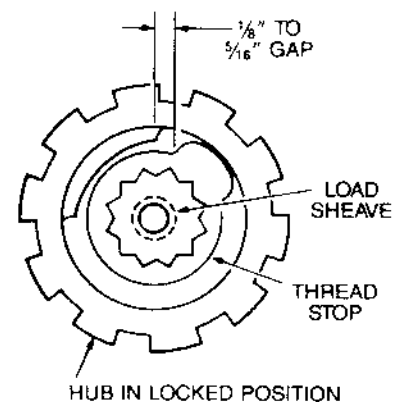
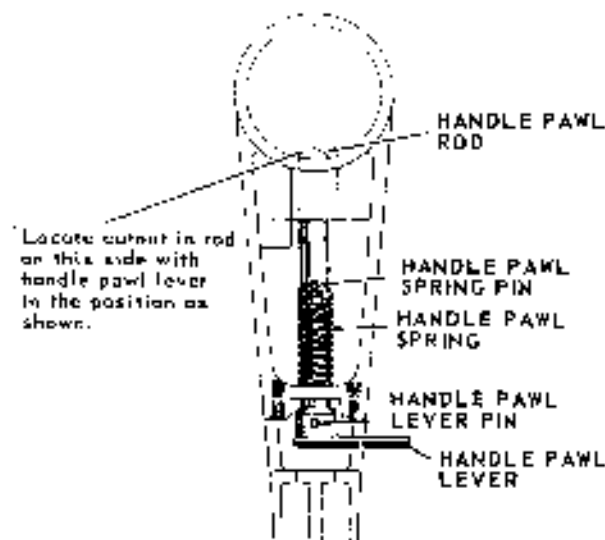

FIGURE 4-6. POSITIONING OF THREAD STOP
FIGURE 4-7. LEVER AND ROD ASSEMBLY
f. Manually screw hub (18) counter-clockwise onto load sheave (32) until the hub face has locked against the brake disc (19). Continue turning hub counter-clockwise until the cast stop within the hub is at the top as shown in figure 4-6. Place thread stop (11) over the square end of the load sheave and to the right of the cast hub stop, allowing a minimum 1/8 inch movement to a maximum 5/16 inch movement between the hub stop and the protrusion on the thread stop.
g. Place gasket (14) on housing (43). If oil seal (15) was removed, press seal in cover (16). Place cover on housing while taking care not to damage oil
h. Insert handle pawl rod (9) into handle (10). Place spring (8) on rod and press pin (5) in rod. Attach lever (7) to rod with pin (6). See figure 4-7 for correct orientation of rod and lever. Replace plug (4) in handle.
i. Install ring (3) on retainer cap (2) and secure handle (10) to hub (18) with retainer cap and screw (1).
j. Assemble top hook (51), hook washer (53) and nut (52) in housing (43). Screw nut on hook until approximately 1/64 inch vertical play (to allow hook to swivel freely) remains. Align pin hole in hook and slot in nut and insert pin (37). If latch (50) was removed, attach latch to top hook.
k. Position swivel frames (48) over bottom hook (49). If latch (50) was removed, attach latch to bottom hook.
1. See figure 4-6 for diagram of chain reeving. Turn handle pawl lever to "DN" position. Insert the hoist on a work table and move handle until a flat chain pocket in the load sheave (32) can be seen. Drop loose end of the load chain into the side of load on same side as load pawl lever (34). The first link of the chain shall be upstanding in the load sheave groove, with the weld on the link facing away from the load sheave. The second link of chain should slide in one of the load sheave pockets. Use handle to turn sheave in the lowering direction. As the end of the chain moves around load sheave, turn hoist upright so load chain will move around load sheave correctly and out of housing.
m. Attach the first link of chain (46) to swivel frames (48) with swivel screw (45) and nut (44). If end ring (47) was removed, attach ring to opposite end of chain.
g. Manually screw hub (18) counter-clockwise onto pinion shaft (36) until the hub face has locked against the brake disc (19). Continue turning hub counter-clockwise until the cast stop within the hub is at the top as shown in figure 4-6. Place thread stop (11) over the square end of the pinion shaft and to the right of the cast hub stop, allowing a minimum of 1/8 inch movement to a maximum 5/16 inch movement between the hub stop and the protrusion on the thread stop.
h. Place gasket (14) on housing (50). If oil seal (15) was removed, press seal in cover (16). Place cover on housing while taking care not to damage oil seal. Attach cover with four screws (12) and lockwashers (13).
i. Insert handle pawl rod (9) into handle (10). Place spring (8) on rod and press pin (5) in rod. Attach lever (7) to rod with pin (6). See figure 4-7 for correct orientation of rod and lever. Replace plug (4) in handle.
j. Install ring (3) on retainer cap (2). Secure handle (10) to hub (18) with retainer cap and screw (1).
k. Assemble top hook (58), hook washer (61) and nut (60) in housing (50). Screw nut on hook until approximately 1/64 inch vertical play (to allow hook to swivel freely) remains. Align pin hole in hook and slot in nut and insert pin (56). If latch (57) was removed, attach latch to top hook.
l. Position swivel frames (55) over bottom hook (56). If latch (57) was removed, attach latch to bottom hook.